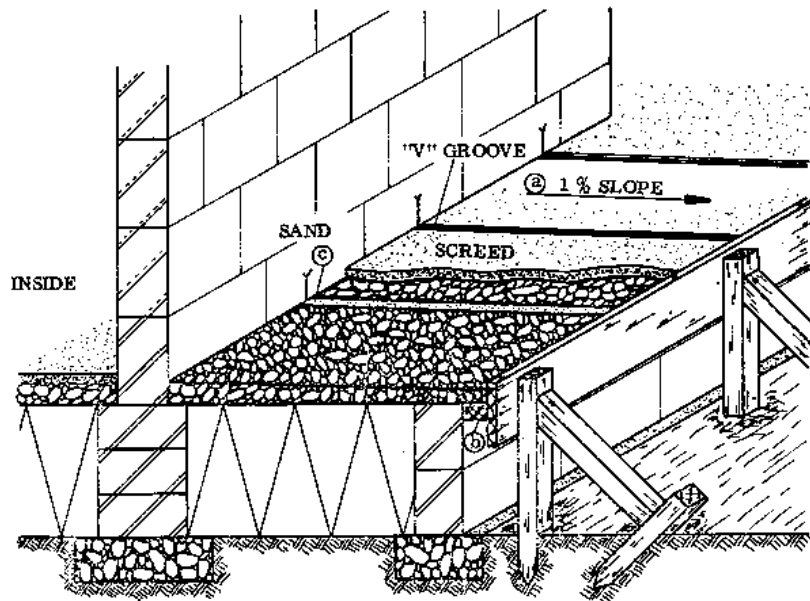

Fig. 1
- Usually the verandah floor is built with a small slope towards the outside so that rain water can run off quickly (Fig. 1, a).
- The verandah floor can have a projecting outside edge (Fig. 1, b).
- Because the floor is exposed to the sun, expansion gaps have to be made in it. This means that the floor must be made with the two-course method. (Fig. 1, c, and Basic Knowledge book, page 183).